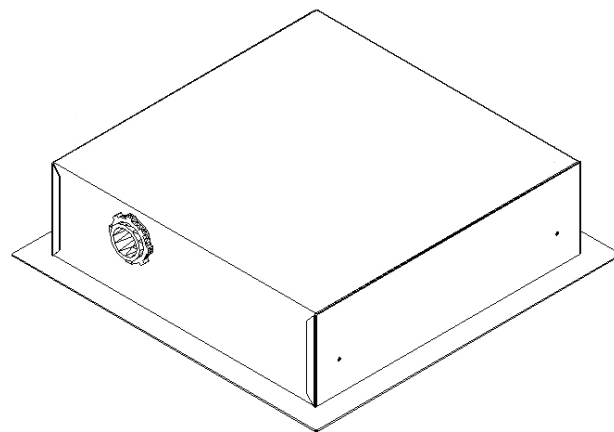
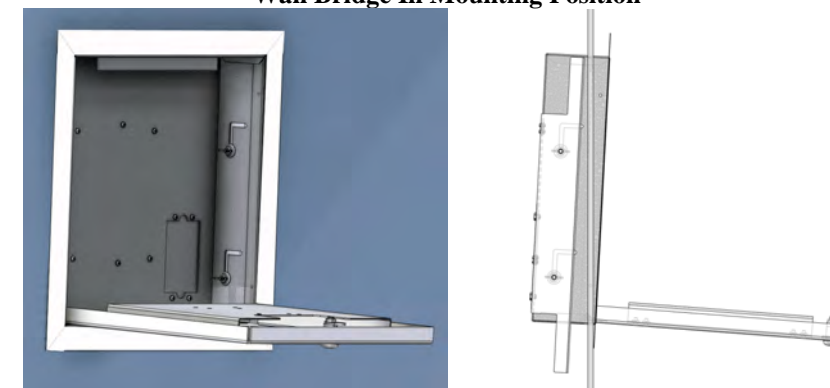

Figure 3 - Cable Clamp Installation
Figure 1 - Installation Into Wall/Ceiling
Step 1 - Cut a 13" horizontal x 13.4" vertical opening in the "hard lid" ceiling or wall (special cutting tools may be required – ref. *Figure 1*).
Step 3 – Place the (2) two wall bridges in the mounting position by loosening the (4) four wing nuts inside of the enclosure. The position of the wall bridges will look like the image in Figure 3. Place the enclosure in to the hole that was cut in Figure 1. Angle the enclosure at 10° with the wall bridges extended towards the bottom. The wall bridges will go in first. Once the bottom of the enclosure is in the hole push the enclosure so it is flush with the wall or ceiling.